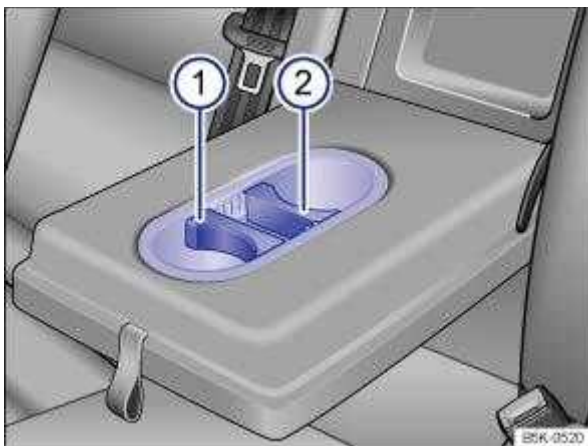

Fig. 138 In the rear centre armrest: drink holder.
To adjust to the size of the drinking vessel: pull out the inserts ⇒ Fig. 138 ① or ② upwards and insert them to fit the size of the vessel.